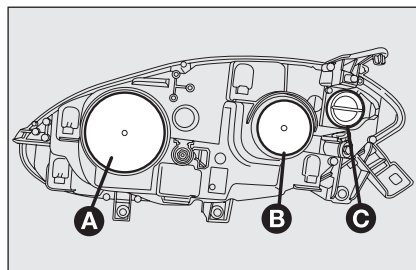
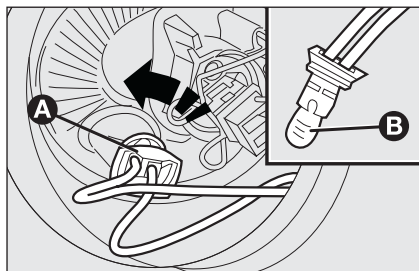

fig. 19
fig. 21
FRONT LIGHT UNITS fig. 19
- ☐ remove the protective cover **B**-fig. 19;
- ☐ refit the protective cover **A**-fig. 19 correctly.
- ☐ remove the protective cover **A-fig. 19**;
- ☐ turn the bulb holder **A-fig. 21** counterclockwise and then withdraw it;
- ☐ fit the new bulb, refit the bulb holder **A-fig. 21** and then refit the protective cover **B-fig. 19** correctly.
- ☐ refit the protective cover **B-fig. 19** correctly.
- ☐ turn the protective cover **C-fig. 19** counterclockwise;